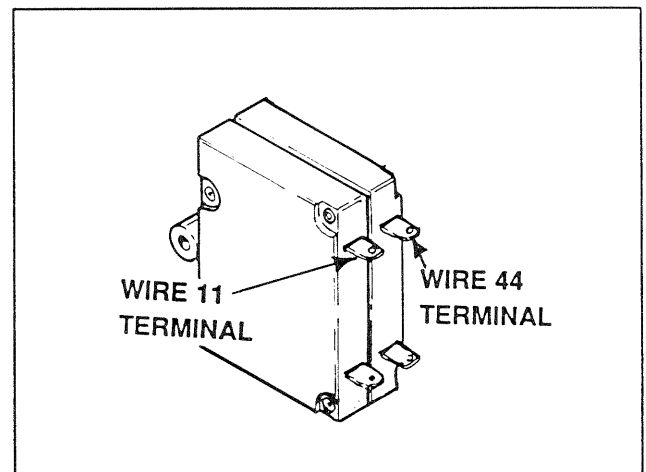

Figure 1. Generator Main Circuit Breaker Test Points
1. With the engine shut down, connect the AC voltmeter test leads across the Wires 11 and 44 terminals of the generator main circuit breaker (see Figure 1). Test leads may also be connected across transfer switch terminal lugs E1 and E2, if desired. These connections will permit line-to-line voltages to be read.